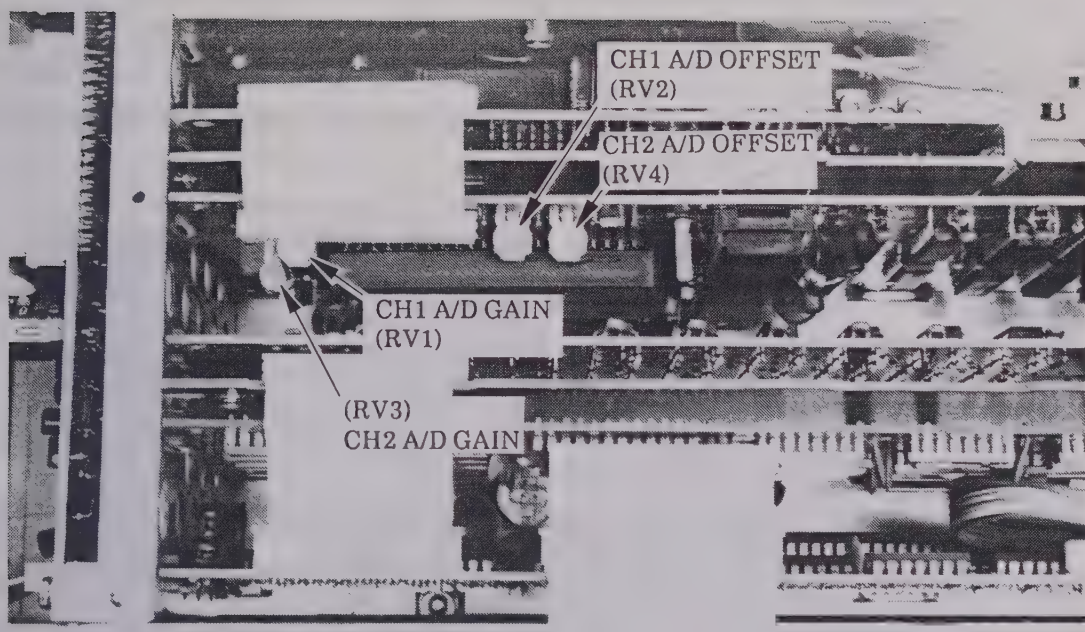

Fig. 4-40 Adjustment positions of CH1 GAIN (RV1) and CH1 A/D OFFSET (RV2)
- (1) Perform initial setting of the instrument in accordance with Table 4-3.
- (2) Apply a 50mVp-p standard amplitude generator output to the CH1 input. (If the sweep speed is not suitable, select another sweep speed.)
- (3) Confirm that the amplitude displayed on the screen is within  $5 \text{ DIV} \pm 0.1 \text{ DIV}$ . (If it is not, return to the real time system adjustment and re-adjust.)
- (4) Set "STORAGE/REAL" to "STORAGE".
- (5) Confirm that the amplitude is within  $5 \text{ DIV} \pm 0.1 \text{ DIV}$ . If it is not, adjust CH1 A/D GAIN (RV1) on board A16 shown in Fig.4-40.
- (2) Set the input coupling of CH1 to "GND".
- (3) Rotate "CH1 POSITION" knob until the trace of CH1 is at the center of the CRT screen.
- (4) Set "STORAGE/REAL" to "STORAGE", and confirm that the trace shift is within  $\pm 0.1 \text{ DIV}$ . If it is not, adjust CH1 A/D OFFSET (RV2) on board A16 shown in Fig. 4-40.
- (2) Set "VERT MODE" to "CH2".
- (3) Apply a 50mVp-p standard amplitude generator output to the CH2 input. (If the sweep speed is not suitable, select another sweep speed.)
- (4) Confirm that the amplitude in the vertical direction of the CRT screen is within  $5 \text{ DIV} \pm 0.1 \text{ DIV}$ . (If it is not, return to the real time system adjustment and re-adjust the system.)
- (5) Set "STORAGE/REAL" to "STORAGE".
- (6) Confirm that the amplitude in the vertical direction of the CRT screen is within  $5 \text{ DIV} \pm 0.1 \text{ DIV}$ . If it is not, adjust CH1 A/D GAIN (RV3) on board A16 shown in Fig. 4-40.
- (3) Set the input coupling of CH2 to "GND".
- (4) Rotate "CH2 POSITION" knob until the trace of CH2 is at the center of the CRT screen.
- (5) Set "STORAGE/REAL" to "STORAGE", and confirm that the trace shift is within  $\pm 0.1 \text{ DIV}$ . If it is not, adjust CH2 A/D OFFSET (RV4) on board A16 shown in Fig. 4-40.